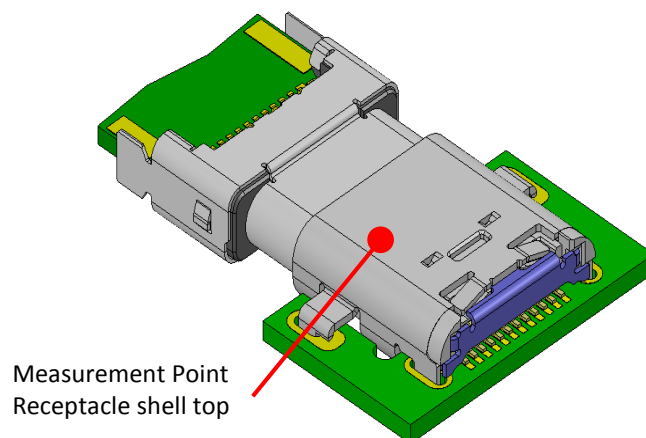

Figure 3-x Temperature Measurement Point
- For certification, the connector manufacturer shall provide the receptacle and plug samples under test mounted on a current rating test PCB. The current rating test PCBs shall be of a 2-layer construction. Table 3-y defines the requirements for the test PCB thickness and traces. The trace length applies to each PCB (receptacle PCB and plug PCB) and is from the contact terminal to the current source tie point. Figure 3-(x+1) provides an informative partial trace illustration of the current rating test PCB.